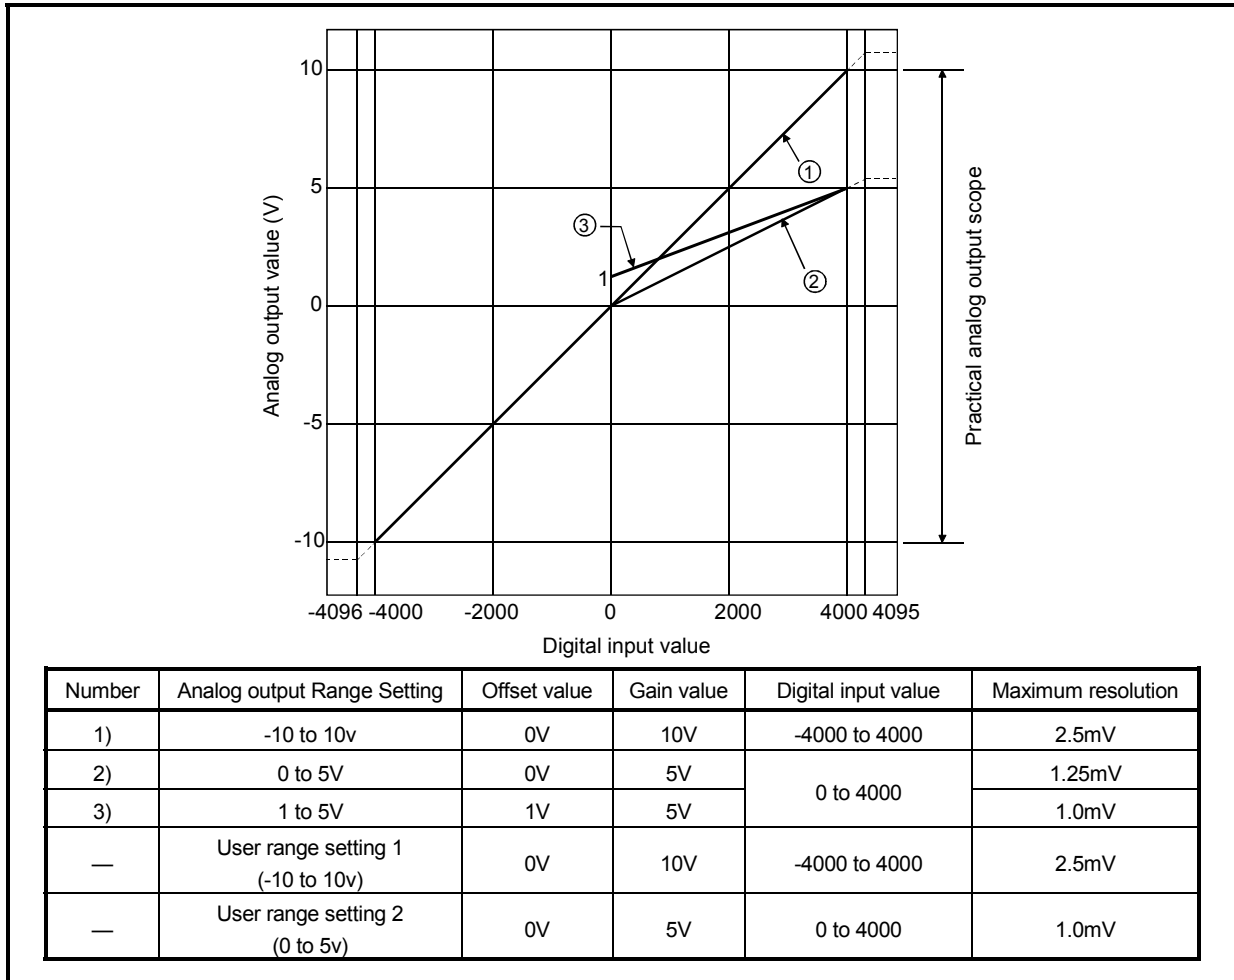

Fig. 3.1 Voltage Output Characteristic
<p>(1) Within the digital input and analog output scopes of each output range, the maximum resolution and accuracy are within the performance specification range. Outside those scopes, however, they may not fall within the performance specification range. (Avoid using the dotted line part in Fig. 3.1.)</p> <p>(2) Set the offset and gain values of the user range setting within the range satisfying the following conditions.</p> <p>(a) Setting range when user range setting 1 is selected: -10 to 10V</p> <p>(b) Setting range when user range setting 2 is selected: 0 to 5V</p> <p>(c) (Gain value) &gt; (Offset value)</p> <p>If you attempt to make setting outside the setting range of (a) or (b), the "RUN" LED flickers at 0.5s intervals. Set the values within the setting range.</p> <p>If you attempt to make setting outside the setting range of (c), the "RUN" LED flickers at 0.5s intervals. Make setting again.</p>